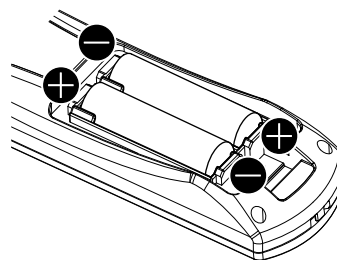

Fig. 2
- 2) Insert the batteries and close the cover (insert the **–** side first). (Fig. 2)